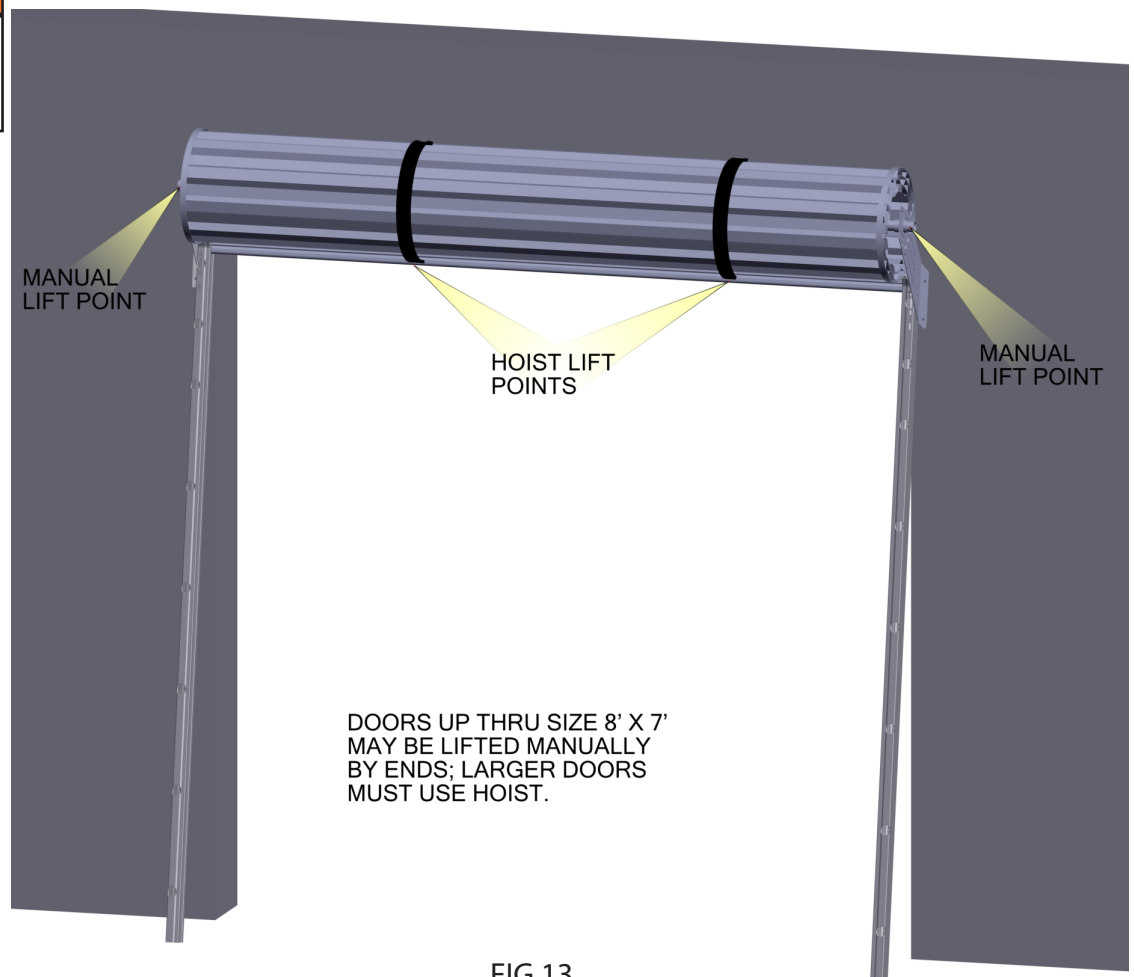

FIG 13
Attempting a one-man installation can result in serious bodily injury and/or damage to door. See Figure 13 for recommended method.
- Lift the banded curtain and guides up with a lift, hoist, or two people and place the guide assemblies against the jambs while supporting the curtain weight. See Figure 13.